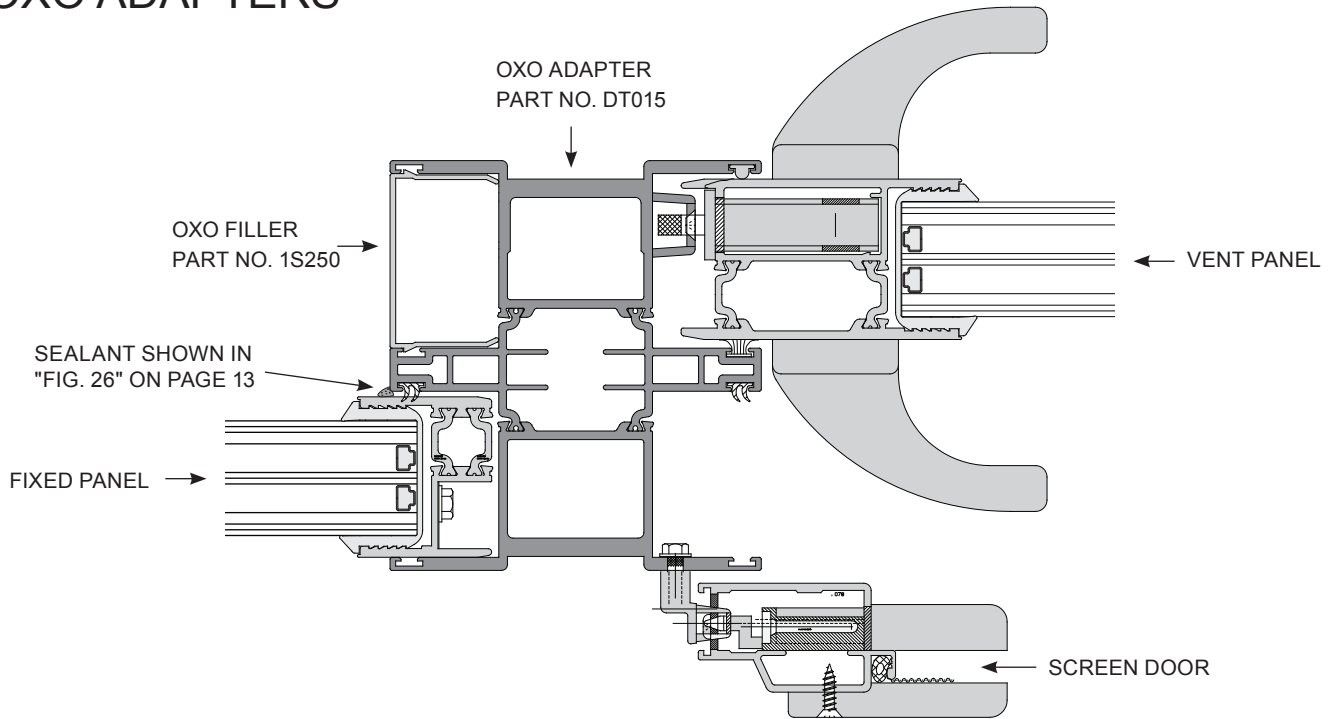

FIG. 55
11. Snap in the OXO filler Part No. 1S250 shown in "FIG. 55" on page 24.